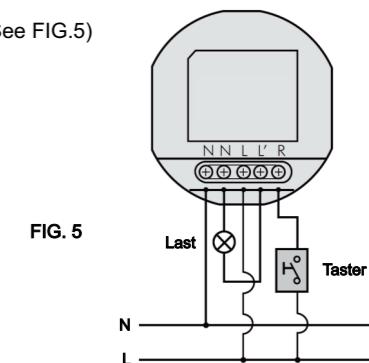
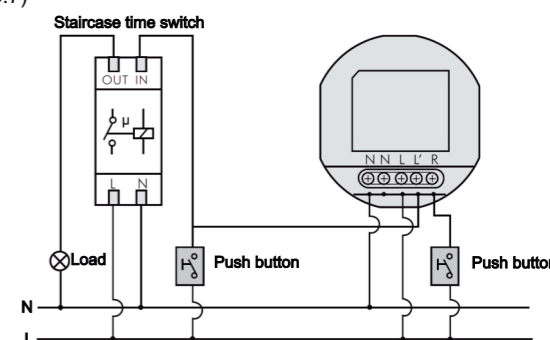
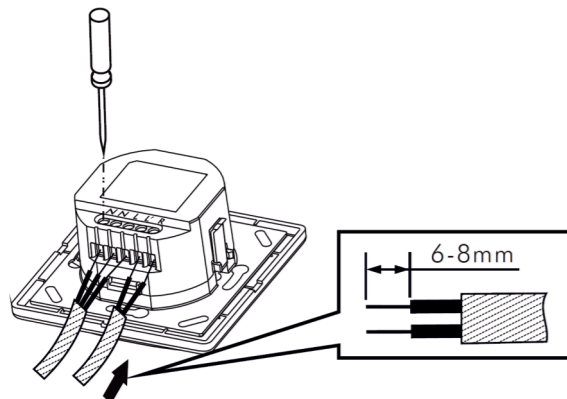

FIG. 5
FIG. 7
FIG. 9
#### 3.3.1 Normal operation (See FIG.5)
#### 3.3.3 One detector controls staircase time switch (Time knob sets at 1s) (See FIG.7)
3.4.1.2 Unscrew the terminal and refer to the wiring diagram (See FIG.5 - FIG.7) to insert the power cables into the corresponding terminal blocks. Please be noted to strip off 6 - 8mm of cable sheathing by tool (See FIG.9).